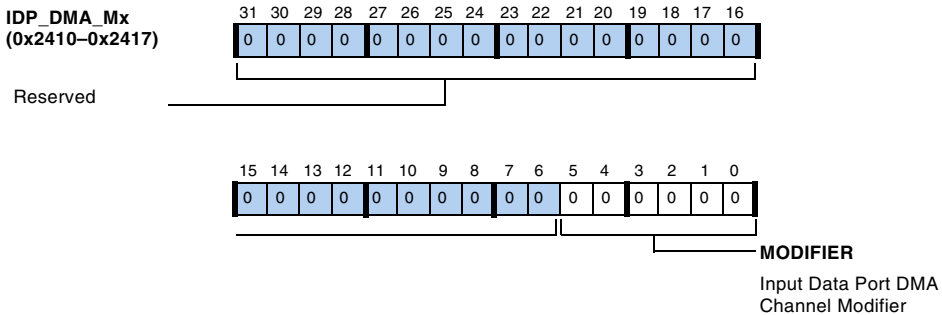

Figure A-65. IDP\_DMA\_Mx Register
- IDP\_DMA\_Mx (including IDP\_DMA\_M0, IDP\_DMA\_M1, IDP\_DMA\_M2, IDP\_DMA\_M3, IDP\_DMA\_M4, IDP\_DMA\_M5, IDP\_DMA\_M6, and IDP\_DMA\_M7), described beginning with Figure A-65